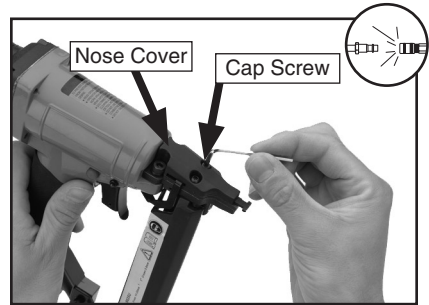

Figure 8. Loosening cap screws on cover.
4. Loosen the cap screws shown in **Figure 8** and remove the nose cover.